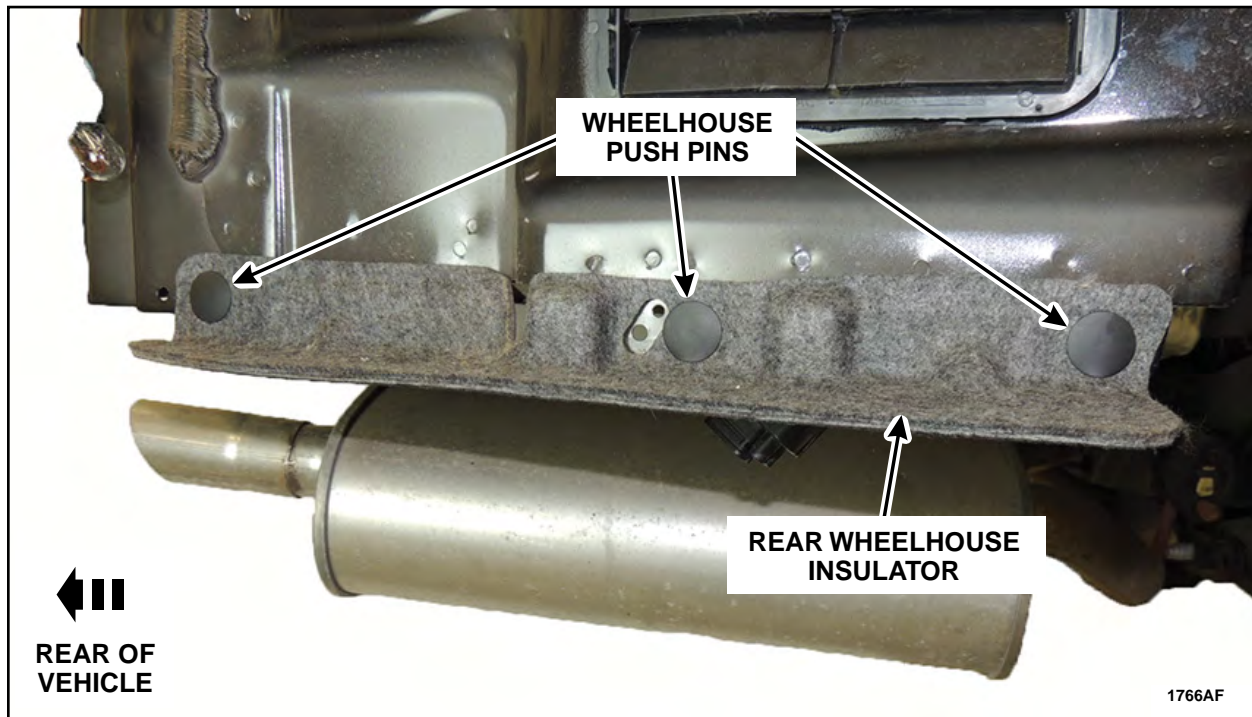

FIGURE 5
- Reinstall the wheelhouse insulators. The wheelhouse push pins can be reinstalled by removing the lower inner fender well fasteners to gain access to the fasteners. See Figure 5.